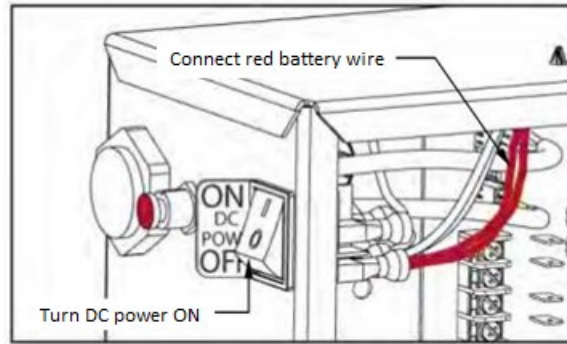

Figure 10. Connecting Battery
1. Connect the red battery wire to its spade terminal. See Figure 10.